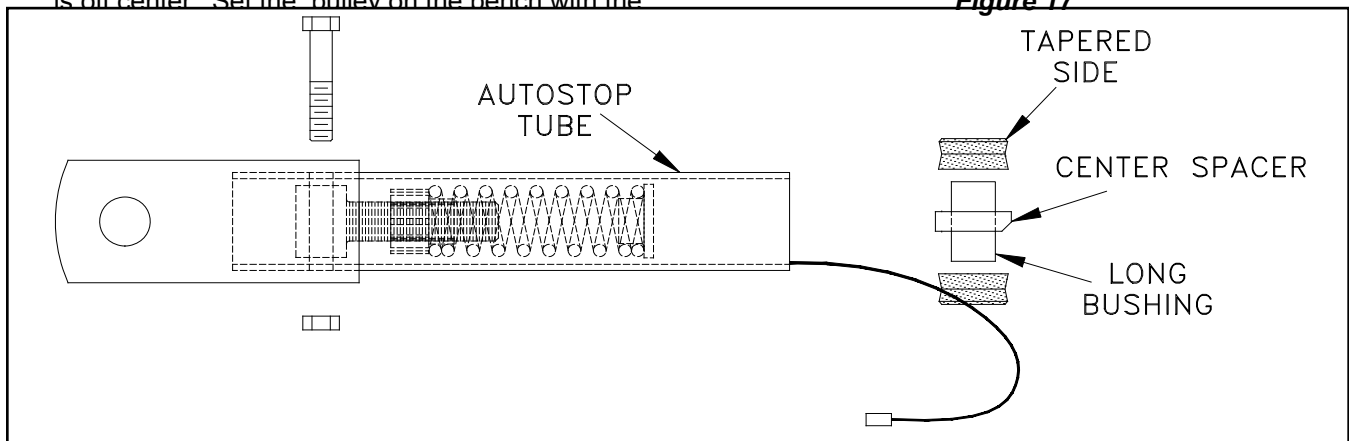

Figure 13
2. Lay the AutoStop tube on a table or bench with the tongue flat side towards you. (Figure 13) Thread the adjusting nut onto the adjusting bolt half way on the threads. Slide the compression spring onto the adjusting bolt all the way onto the adjusting nut. Then place the end fitting on the other end of spring. Slide this assembly into the AutoStop tube until adjusting bolt hole is lined up with the two front holes of AutoStop tube, then insert the 7/16" hex bolt through the AutoStop tube and secure bolt with hex nut. **NOTE:** If you are configuring the AutoStop for a 2 inch rise as described on page 1, flip the AutoStop tube over so the tongue flat side is away from you before sliding in the shock absorber.